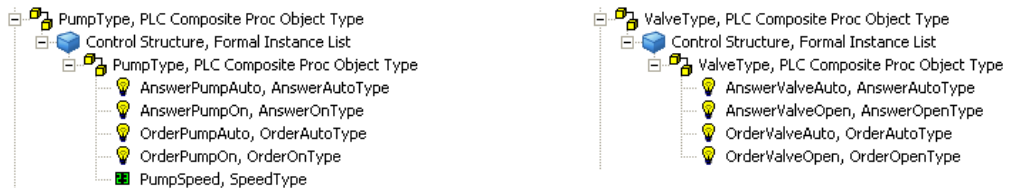

Figure 12. Example Pump Object Type (Left) and Valve Object Type (Right)
- b. Add instances of the created signal types to the composite process object types. Figure 12 shows the object types used in this example.